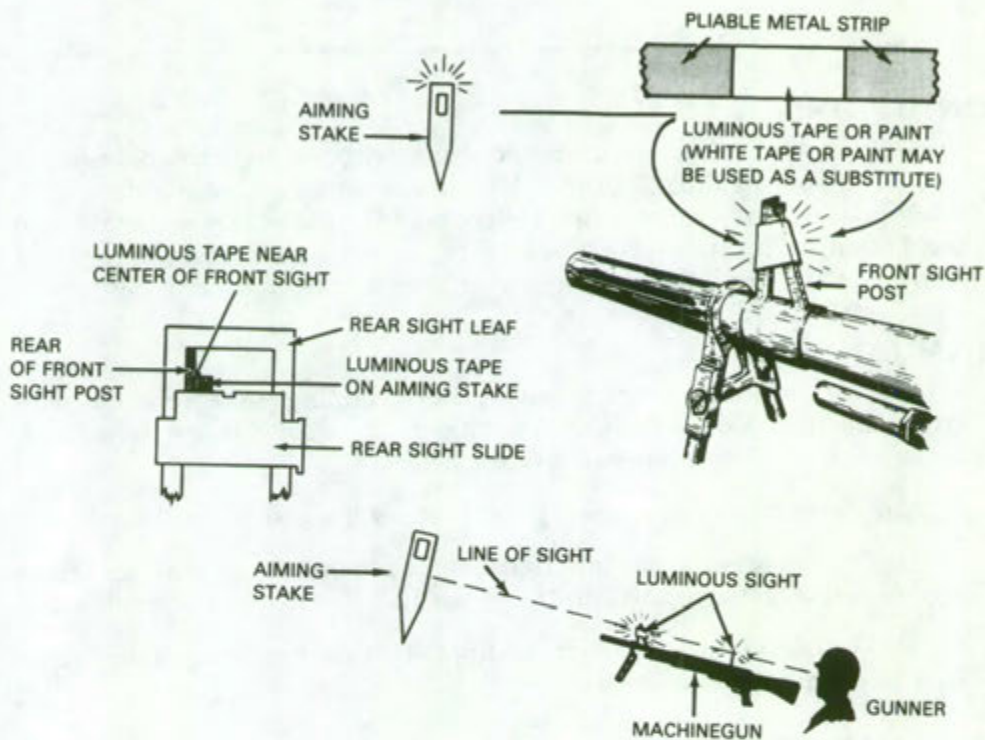

Figure 1.
1. Using the aiming stake technique (figure 1), use the following procedure:
- b. Raise the rear sight slide to its uppermost position in the rear sight leaf and place a strip of luminous tape at least halfway up the rear of the front sight post (figure 1).
- d. The gunner sighting the desired target area directs the assistant gunner to align the stake and drive it into the ground in such a way that the two pieces of luminous material are adjacent (alined for direction) and top edges of both pieces of material are level (alined for elevation) (figure 1).